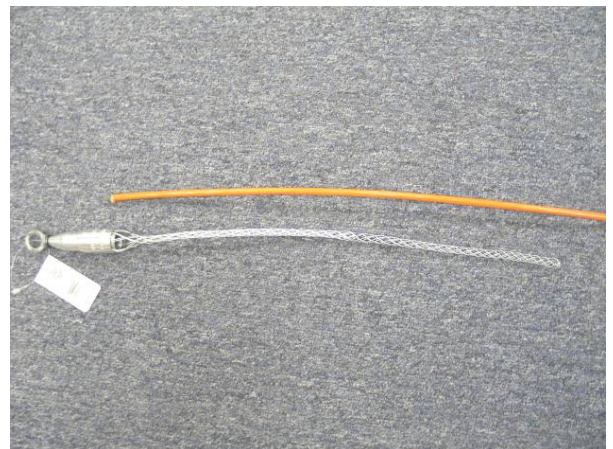

Figure 6: Measure Pulling Grip
Step 1: The length of the grip is measured along the length of the cable and the cable marked where the end of grip is located (See Figures 6 and 7).